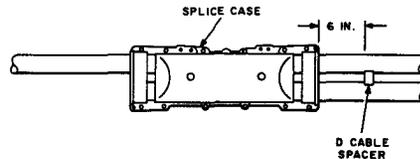

Fig. 2—D Cable Spacer Positioned Between Cables
2.02 Select a D cable spacer of appropriate size as outlined in Section 627-340-101 and position between the cables approximately 6 inches from the splice case as shown in Fig. 2.